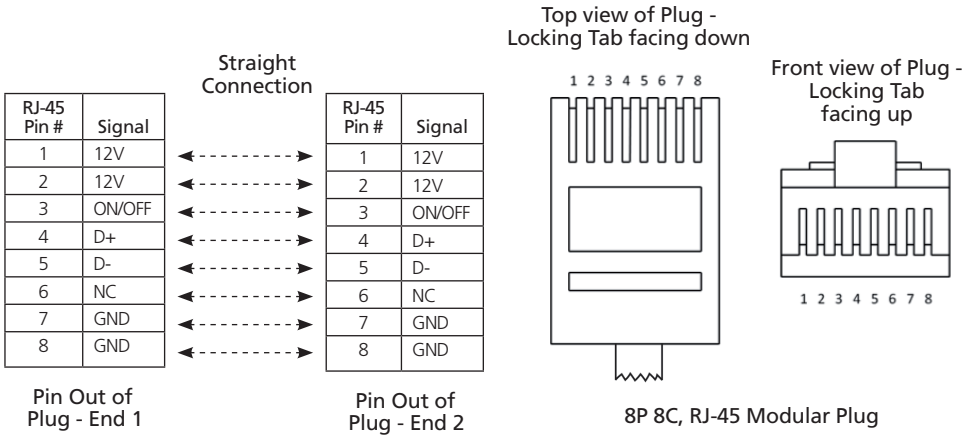

Fig 1.2 Pin Out of Plugs for 8P8C, RJ-45 Connecting Cable
- Plug interconnection: Straight (See Pinout at Fig 1.2)